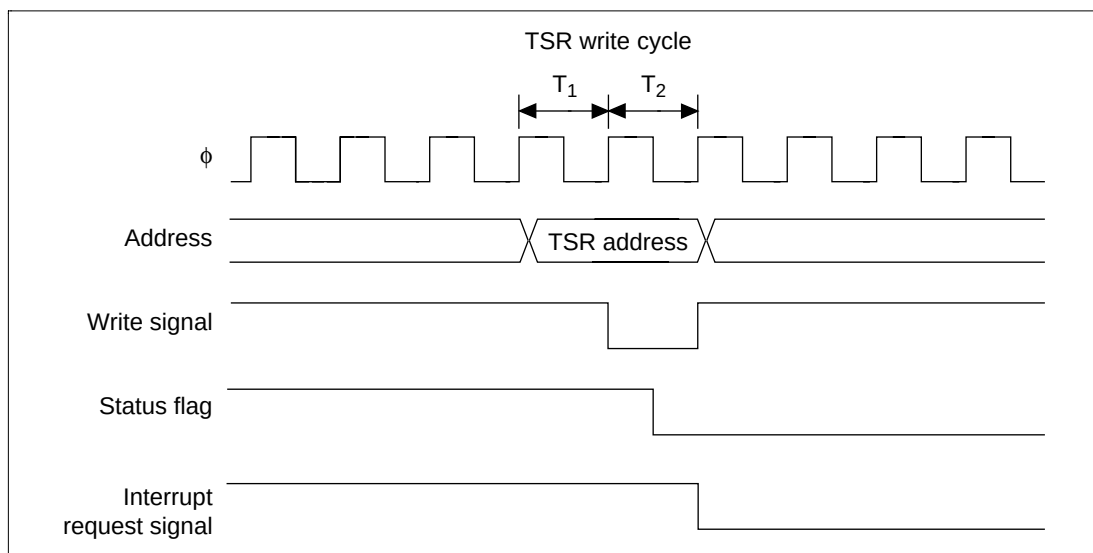
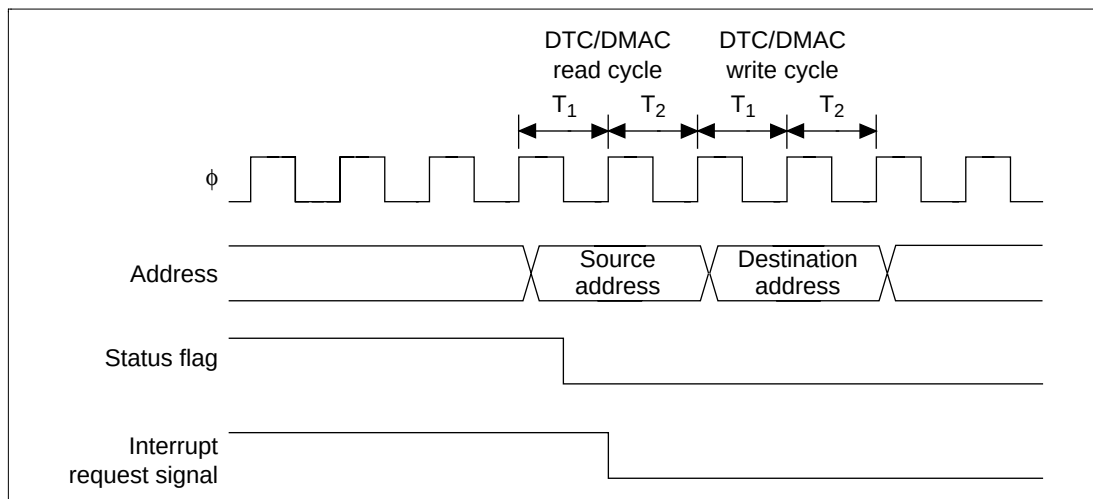

**Figure 12.74 Timing of Status Flag Clearing by the CPU**
**Figure 12.75 Timing of Status Flag Clearing by DTC/DMAC Activation**
**Status Flag Clearing Timing:** The status flag is cleared when the CPU reads a 1 status followed by a 0 write. For DTC/DMA controller activation, clearing can also be done automatically. Figure 12.74 shows the timing for status flag clearing by the CPU. Figure 12.75 shows timing for clearing due to the DTC/DMA controller.